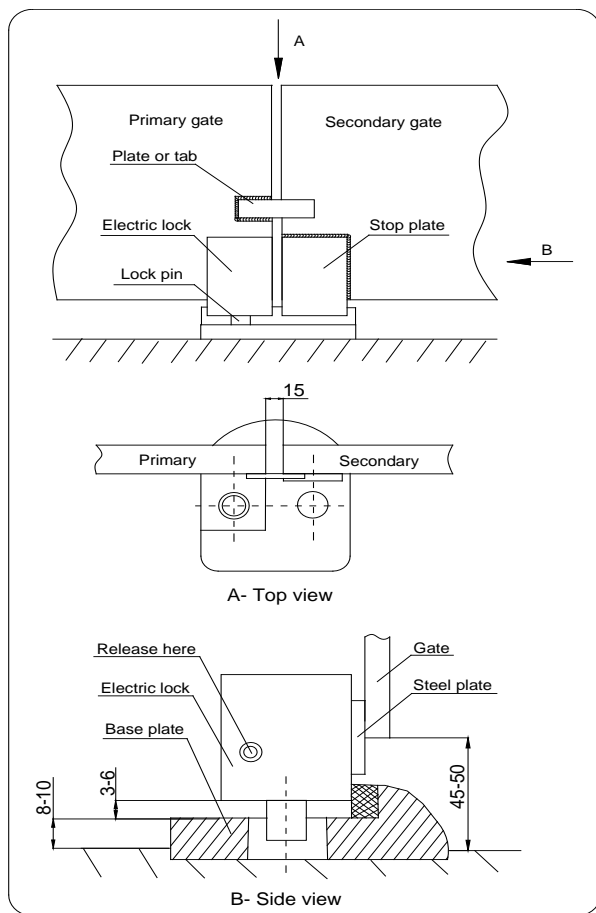

Fig.15
- Weld the steel plate of the lock to the primary gate, and then fix the lock to the steel plate. See Fig.15 to determine the height of the electric lock.
Plate or tab (see Fig.15)